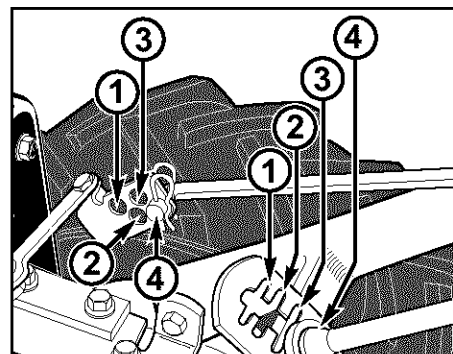

Figure 3-4: Handlebar height slots and clutch swivel plate holes.
- (b) There are four numbered holes in the clutch swivel plate (see Figure 3-4) and four numbered slots in the curved height adjustment bracket. For correct operation of the Forward Clutch mechanism, the numbered holes used for the Forward Clutch rod must match the numbered slot in the height adjustment bracket. Example: If handlebar is in slot #4, put Forward Clutch rod into hole #4 of clutch swivel plate.